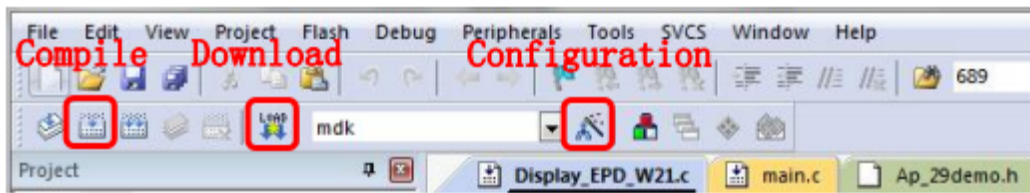
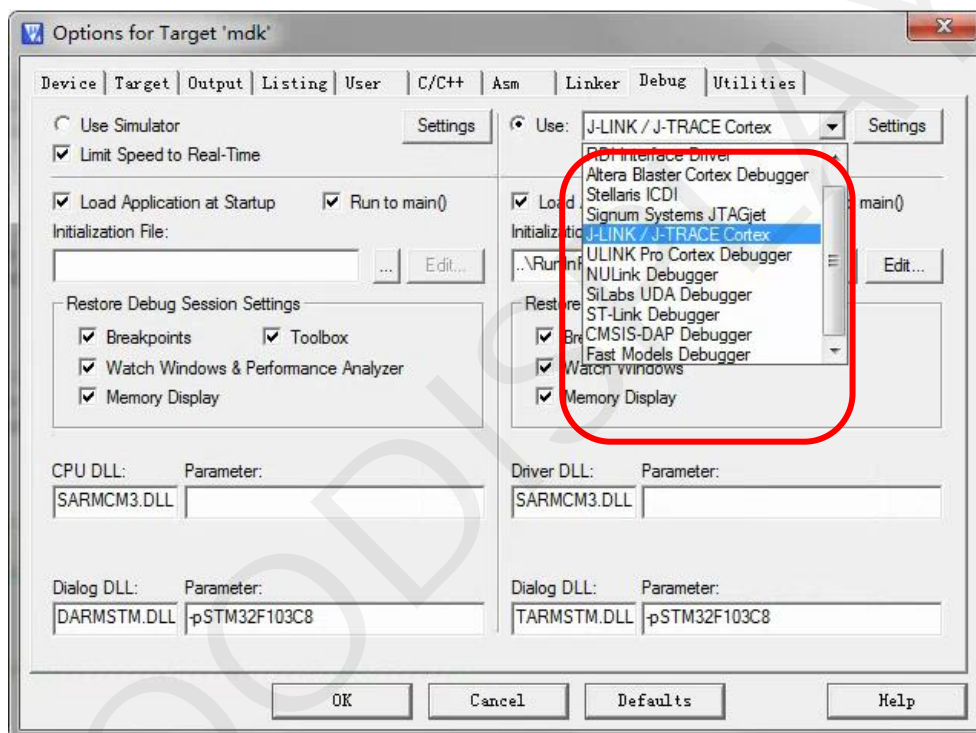
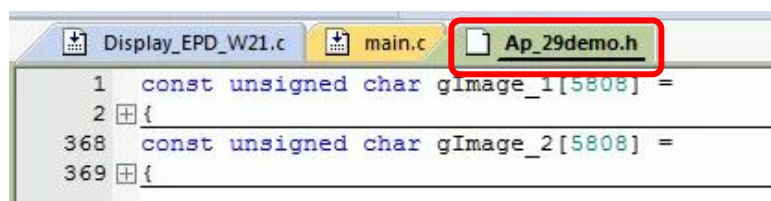

Figure 8 : Keil4 toolbar
Figure 9 :Choose the simulator model
Figure 10 :change the image data
3) The Keil4 toolbar is shown in Figure 8. Please click  at the first time using the simulator and a box like Figure 9 will pop up. Choose the simulator model of yours in the "Debug" bar, and click "OK" to confirm.
4)Click Ap\_29demo.h in Figure 10 to change the image data that needs to be displayed(the image data needs to be achieved by image2lcd ).
5)Click  in the toolbar in Figure 8 to compile.
6)Click  in the toolbar in Figure 8 to download.
9) If you want to change a image, you need to use Keil4 to change the image data (Figure 10), compile it (Figure 8) to generate a new mdk.hex file, and then re-select the file to download it.